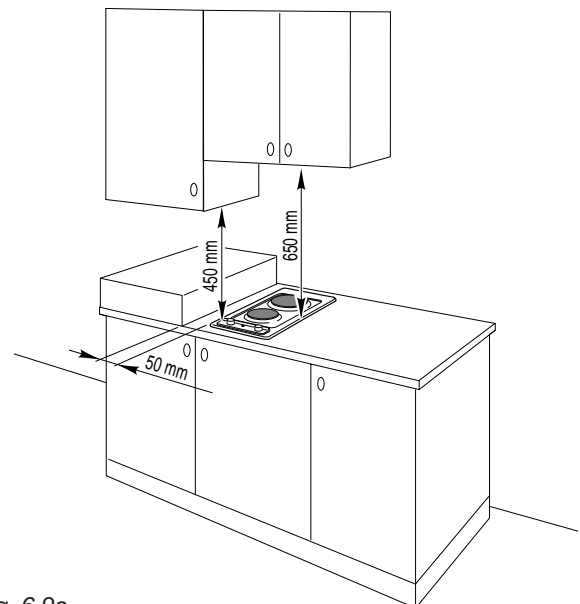

Fig. 6.9a
- there must be a distance of at least 650 mm between the hob and any wall cupboard or extractor hood positioned immediately above (see figs. 6.9a and 6.9b).